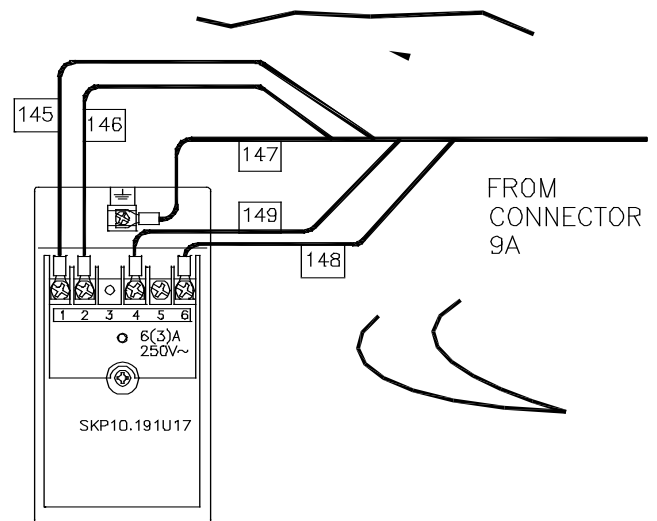

Figure 6.6
3. Remove wire 149 or 148 from terminal 4 or 6. (See Fig. 6.6).